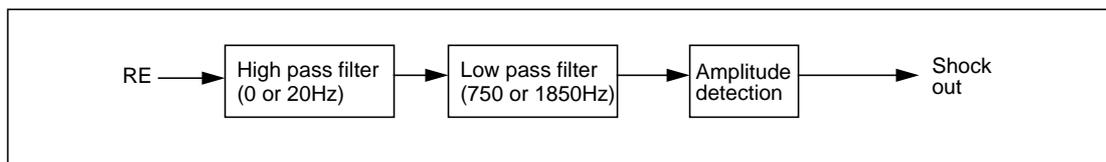

Figure 18 Block Diagram of Shock Detector
The shock detector (block diagram shown in Figure 18) can be switched on during normal track following; and detects within an adjustable frequency whether disturbances in the radial spot position relative to the track exceed an adjustable level (controlled by *shock\_level*). Every time the radial tracking error (RE) exceeds this level the radial control bandwidth is switched to twice its original bandwidth and the loop gain is increased by a factor of 4.